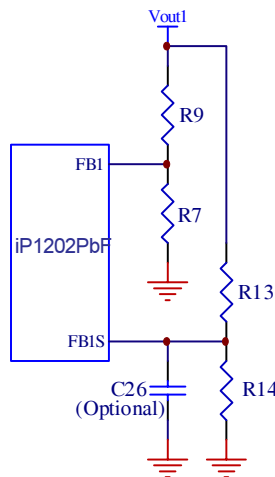

Fig. 17: Typical scheme for output voltage setting
Both outputs of the iP1202PbF will shut down if either one of the outputs experiences a voltage in the range of 115% of V_{OUT} . The overvoltage sense pins FB1s and FB2s are connected to the output through voltage dividers, R_{13} and R_{14} (Fig. 17), and the trip setpoints are programmed according to equation (1). Separate overvoltage sense pins $FB1_s$ and $FB2_s$ are provided to protect the power supply output if for some reason the main feedback loop is lost (for instance, loss of feedback resistors). An optional 100pF capacitor (C26) is used for delay and filtering purposes. If this redundancy is not required and if Type II control loop compensation scheme is utilized, FB1s and FB2s pins can be connected to FB1 and FB2 pins respectively.
When selecting output capacitors, it is important to consider the overshoot performance of the power supply. If the amount of capacitance is not adequate, then, when unloading the output, the magnitude of the overshoot due to stored inductor energy, and depending on the speed of the response of the control loop, can exceed the overvoltage trip threshold of the iP1202PbF and can cause undesirable shutdown of the output. The magnitude of the overshoot should be kept below 1.125V_{OUT}. To prevent the overshoot from tripping the output a delay can be added by installing capacitor C26 as shown in Fig.17.